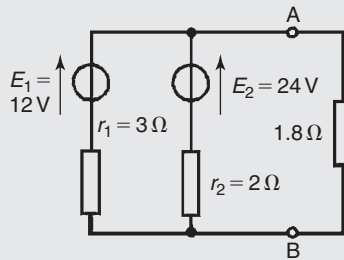
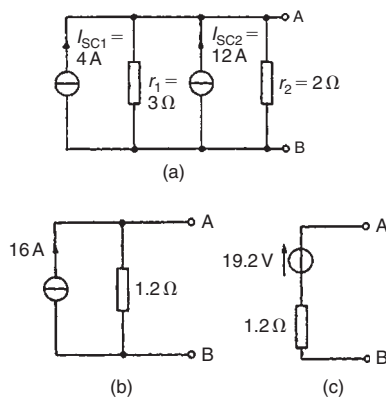

Figure 13.72
Figure 13.73
Problem 20. (a) Convert the circuit to the left of terminals AB in Fig. 13.72 to an equivalent Thévenin circuit by initially converting to a Norton equivalent circuit. (b) Determine the current flowing in the $1.8\ \Omega$ resistor.
(a) For the branch containing the 12 V source, converting to a Norton equivalent circuit gives $I_{SC1} = 12/3 = 4\text{ A}$ and $r_1 = 3\ \Omega$. For the branch containing the 24 V source, converting to a Norton equivalent circuit gives $I_{SC2} = 24/2 = 12\text{ A}$ and $r_2 = 2\ \Omega$. Thus Fig. 13.73(a) shows a network equivalent to Fig. 13.72
From Fig. 13.73(a) the total short-circuit current is $4 + 12 = 16\text{ A}$ and the total resistance is given by $(3 \times 2)/(3 + 2) = 1.2\ \Omega$. Thus Fig. 13.73(a) simplifies to Fig. 13.73(b). The open-circuit voltage across AB of Fig. 13.73(b), $E = (16)(1.2) = 19.2\text{ V}$, and the resistance ‘looking-in’ at AB is $1.2\ \Omega$. Hence the Thévenin equivalent circuit is as shown in Fig. 13.73(c).
(b) When the $1.8\ \Omega$ resistance is connected between terminals A and B of Fig. 13.73(c) the current I flowing is given by